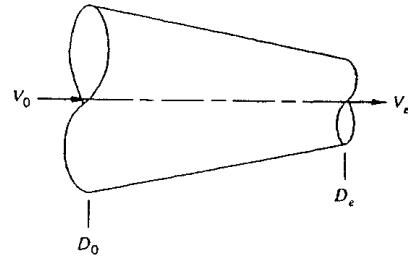

Fig. P4.21
**4.21** Air flows under steady, approximately one-dimensional conditions through the conical nozzle in Fig. P4.21. If the speed of sound is approximately 340 m/s, what is the minimum nozzle-diameter ratio  $D_e/D_o$  for which we can safely neglect compressibility effects if  $V_o = (a) 10 \text{ m/s}$  and (b)  $30 \text{ m/s}$ ?